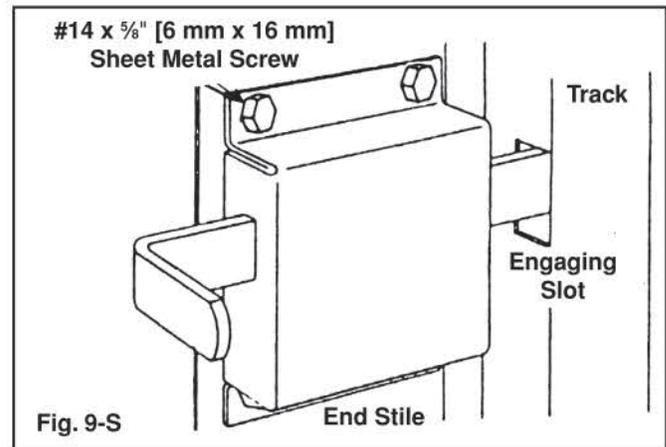

Fig. 9-S
- Inside Slide Bolt (FIG. 9-S)
1. Attach the side lock assembly to the second section. Unless otherwise specified, this stile will be located 18" [457 mm] in from the right hand side of the door (inside facing out). Secure the lock cylinder #2 with the two long machine screws as illustrated. Attach the handle (1) and inside lock mechanism (7), using the fasteners provided.
3. The inside slide bolt is installed on the end stile of the second section so the slide bolt rests against the top of one of the rectangular engaging slots in the vertical track. Details are shown in Figure 9-S.